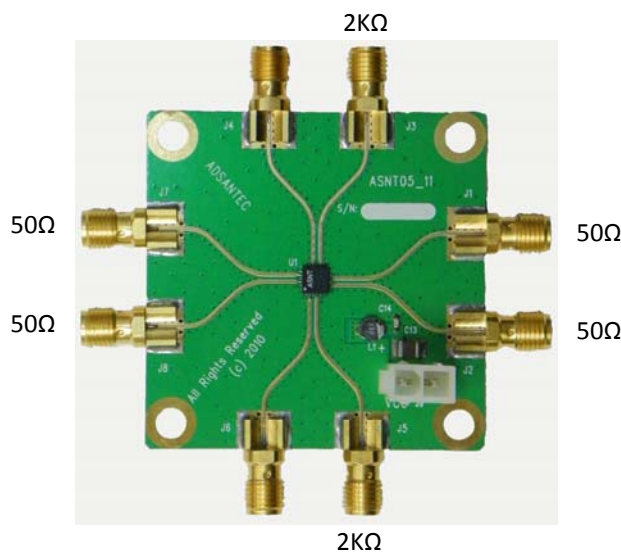

Fig. 5. Impedance of I/O Connectors
- Measure the resistance of all connector pins to VCC, including the power supply, while making sure the board is grounded. All I/O ports should measure 50Ohms while on the power supply connector, VCC should be a short, and GND should be high impedance. tnp/ttn should measure 2.0KOhms. Fig. 5 shows the resistance values of the described I/O connectors.